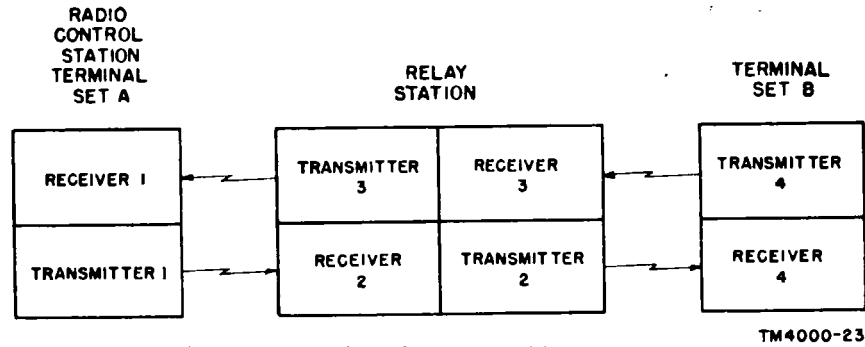
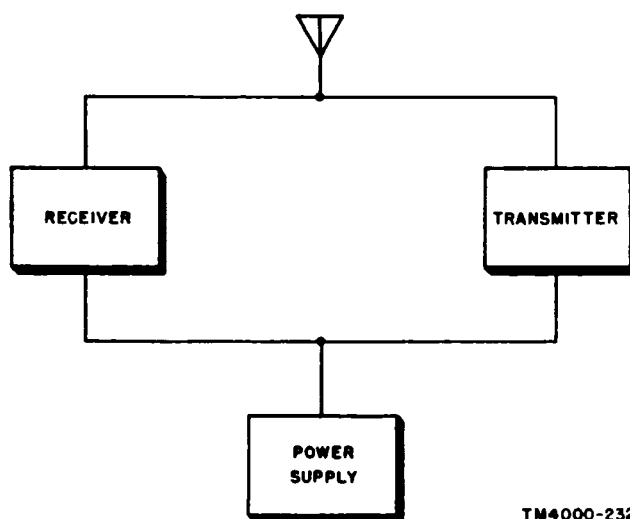

Figure 48. Radio-relay system, block diagram.
Figure 49. Radio set, block diagram.
- (1) If receiver 4 (fig. 48) is not producing a signal at its output, receiver 4 operator requests the operator at transmitter 4 to use the order line to ask receiver operator 3 to alert transmitter 2 operator. Transmitter 2 operator will check his transmitter by observing the meter indications. If the transmitter is normal, receiver 4 is probably defective.
- (2) At the same time, the technician at receiver 4 begins to troubleshoot the receiver, by following the procedure in *b* below. He can also make some simple tests. For example, if the receiver is completely dead, the receiver is at fault. If there is a noise at the receiver output when the gain control is advanced to maximum, the defect is in the RF, mixer, local oscillator, or antenna system.
- (3) In this way, by using the order line for communicating between terminal sets and the relay station, the trouble can be sectionalized to a component in any part of the system.
b. *Sectionalization in a Radio Set.* Many radio sets have a common antenna and a common power supply (fig. 49).
- (1) If the transmitter *and* receiver do not produce any output, the power supply is probably at fault.